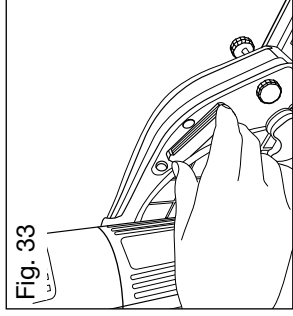

Fig. 33
16. Laser-battery compartment (Fig.33)
3. Push the battery compartment back into the blade guard (Fig. 33).